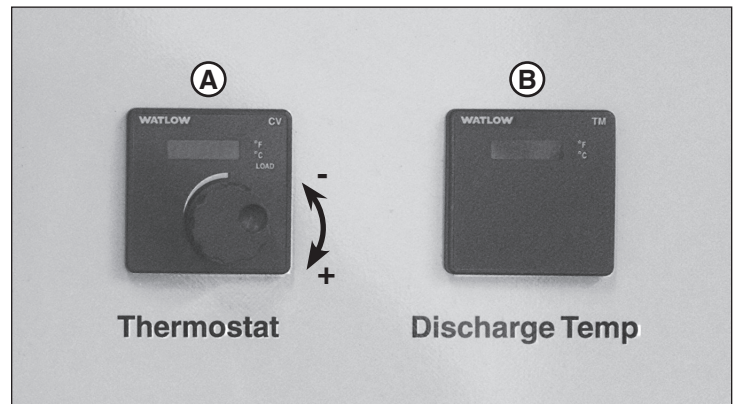

Figure 21
3. Adjust the thermostat (**A**, Figure 21) to the lowest temperature setting (50° F (10° C)).
7. Monitor discharge temperature (**B**, Figure 21). Depending upon ambient air temperature, it may take several minutes for the discharge temperature to rise to the target temperature.